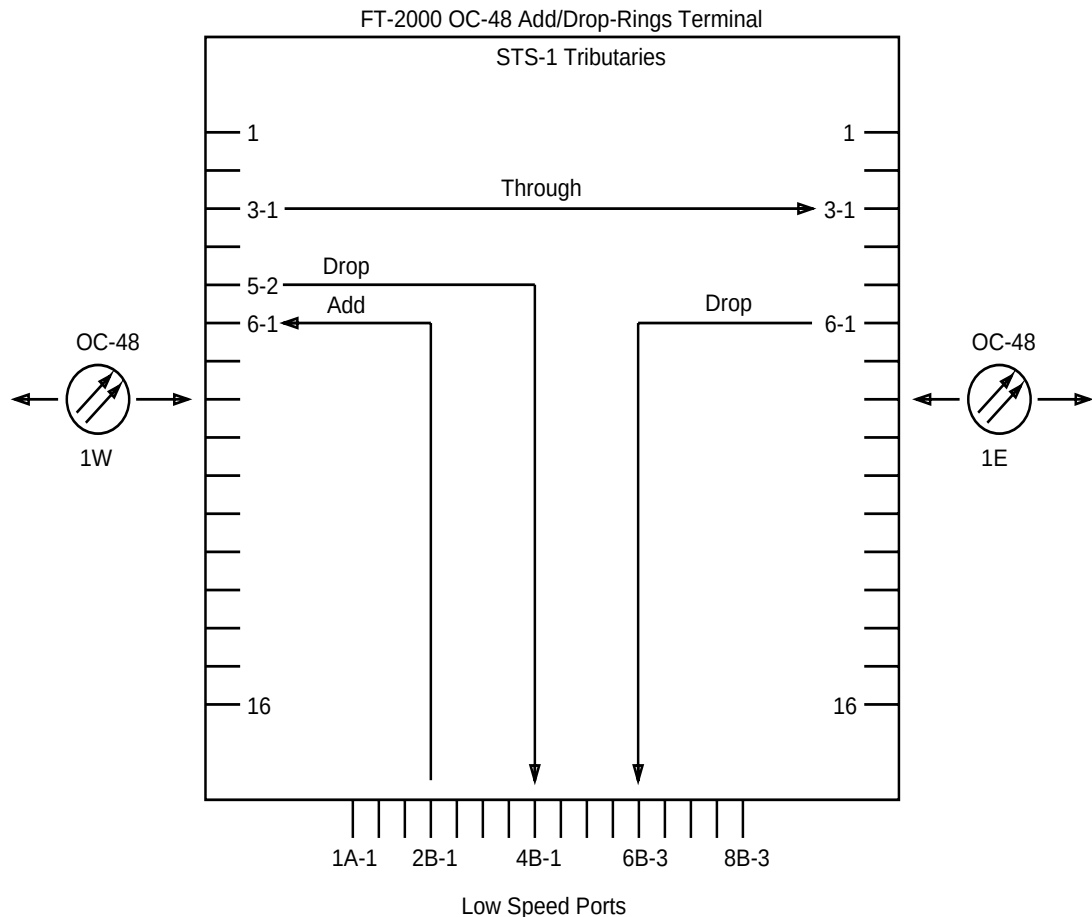

Figure 8-10. STS-1 1-Way Cross-Connections at an FT-2000 OC-48 Add/Drop-Rings Terminal
- **Add cross-connections:** Add cross-connections are made from any service low-speed port to any outgoing STS-1 tributary of OC-48 high-speed line 1E or 1W. For example, Figure 8-10 shows service low-speed port 1 of slot 2B (2B-1) cross-connected to outgoing service STS-1 tributary 1 of STS-3 tributary 6 (6-1) on OC-48 high-speed line 1W.
- **Drop cross-connections:** Drop cross-connections are made from any incoming STS-1 tributary of OC-48 high-speed line 1E or 1W to any service low-speed port. For example, Figure 8-10 shows incoming service STS-1 tributary 2 of STS-3 tributary 5 (5-2) on OC-48 high-speed line 1W cross-connected to service low-speed port 1 of slot 4B (4B-1).
- **Through cross-connections:** Through cross-connections are made from any incoming STS-1 tributary of OC-48 high-speed line 1E or 1W to the same-numbered outgoing STS-1 tributary of the other OC-48 high-speed line. For example, Figure 8-10 shows incoming service STS-1 tributary 1 of STS-3 tributary 3 (3-1) on OC-48 high-speed line 1W cross-connected to outgoing service STS-1 tributary 1 of STS-3 tributary (3-1) on OC-48 high-speed line 1E.
When an STS-1 tributary of OC-48 high-speed line 1E or 1W is cross-connected to a service low-speed port, another service low-speed port may be cross-connected to the same-numbered STS-1 tributary of the other OC-48 high-speed line. For example, Figure 8-10 shows service low-speed port 1 of slot 2B cross-connected to service STS-1 tributary 1 of STS-3 tributary 6 (6-1) on OC-48 high-speed line 1W, and service STS-1 tributary 1 of STS-3 tributary 6 (6-1) on OC-48 high-speed line 1E cross-connected to service low-speed port 3 of slot 6B. This is consistent with the 2-fiber bidirectional, line-switched ring standard.